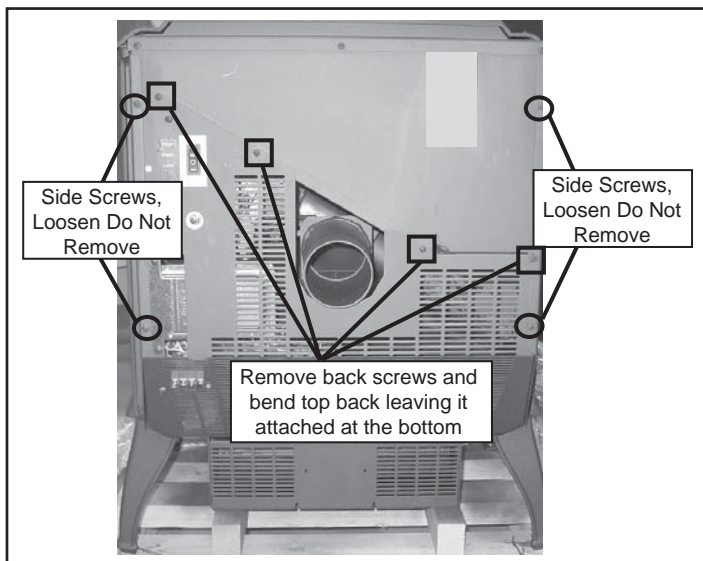

Figure 21.1
- Remove 4 screws from the back screen and pivot the top of the screen toward you leaving the bottom attached to stove. **Figure 21.1.**